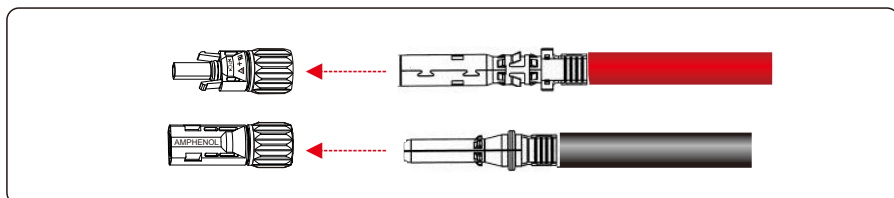

Figure 5.12 Connecting positive and negative connectors
Step 3 Insert the crimped positive and negative power cables into the corresponding positive and negative connectors until a "click" sound is heard, as shown in Figure 5.12.